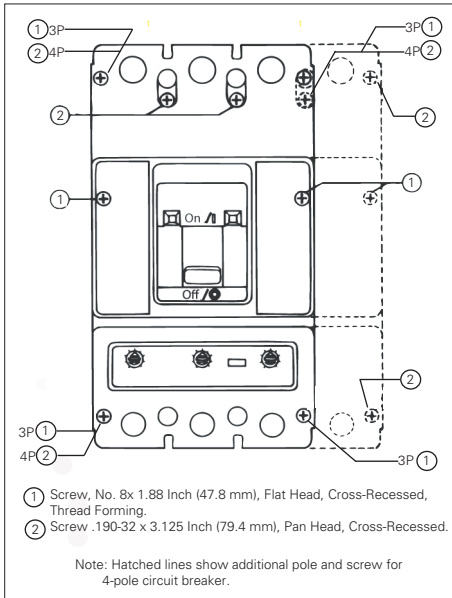

Figure 2. Cover Screw Installation Positions.
2.4 Replace cover and install pan-head screws followed by thread-forming screws as shown in Figure 2. Torque cover screws to 18-23 lb-in (2-2.6 N.m.).